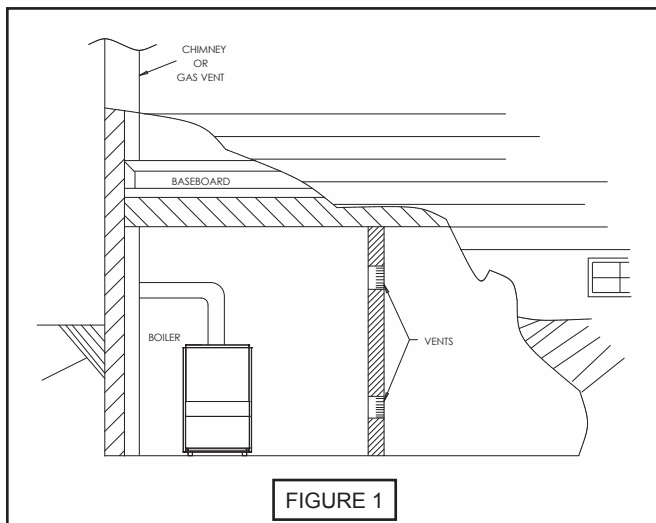

FIGURE 1
4. When air for combustion and ventilation is from inside buildings, the confined space shall be provided with two permanent openings, one starting 12 inches from the top and one 12 inches from the bottom of the enclosed space. Each opening shall have a minimum free area of 1 square inch per 1000 BTU per hour of the total input rating of all appliances in the enclosed space, but must not be less than 100 square inches. These openings must freely communicate directly with other spaces of sufficient volume so that the combined volume of all spaces meets the criteria for an unconfined space. (Figure 1)